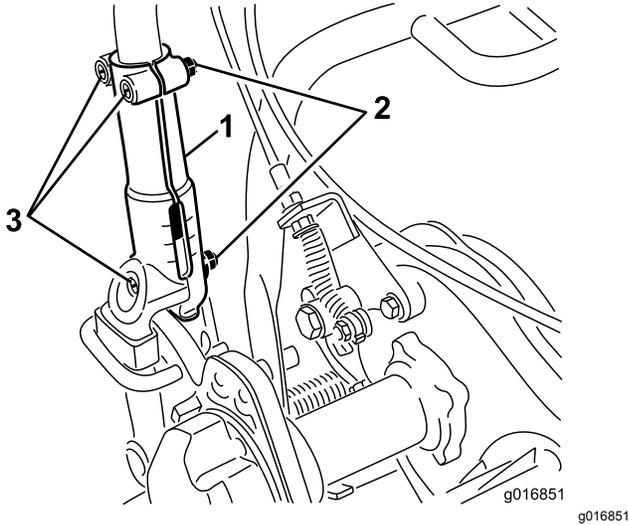

Figure 24
1. Loosen the 3 carriage bolts and nuts securing each side of the handle in the handle clamps (Figure 24).